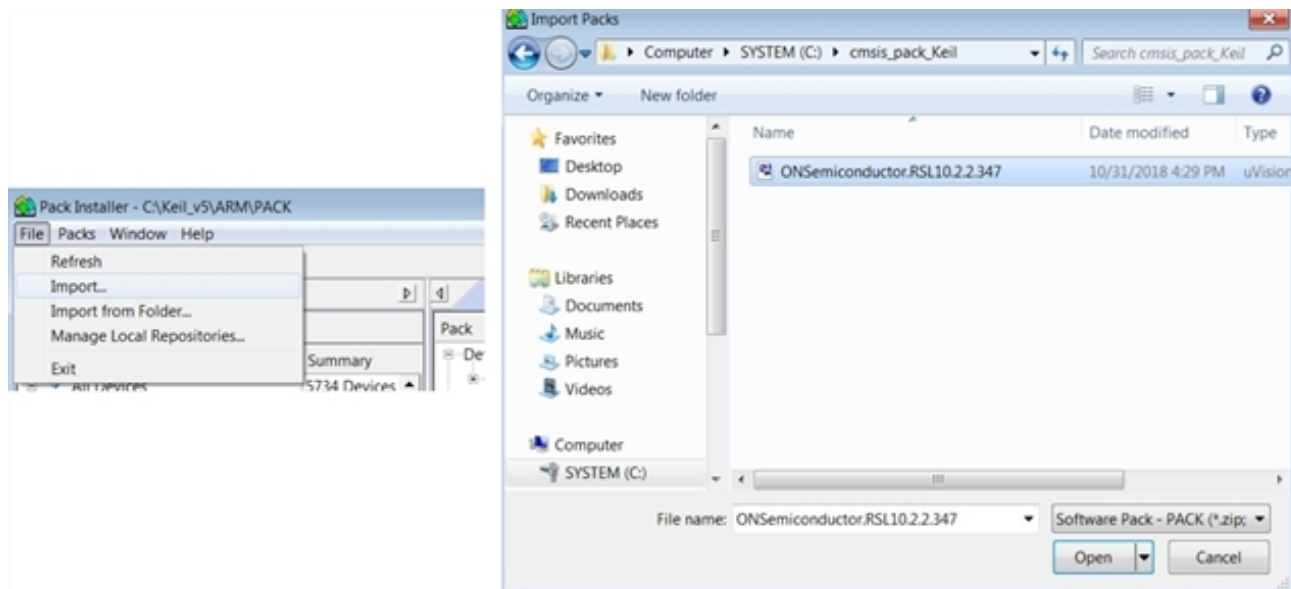

Figure 17. Installing the RSL10 CMSIS-Pack for the Keil μ Vision IDE
2. Click on **File > Import**, select your pack file *ON Semiconductor.RSL10.<version>.pack*, and click **Open** (see the figure "Installing the RSL10 CMSIS-Pack for the Keil μ Vision IDE" (Figure 17)). **<version>** is the RSL10 version, such as 2.2.347.